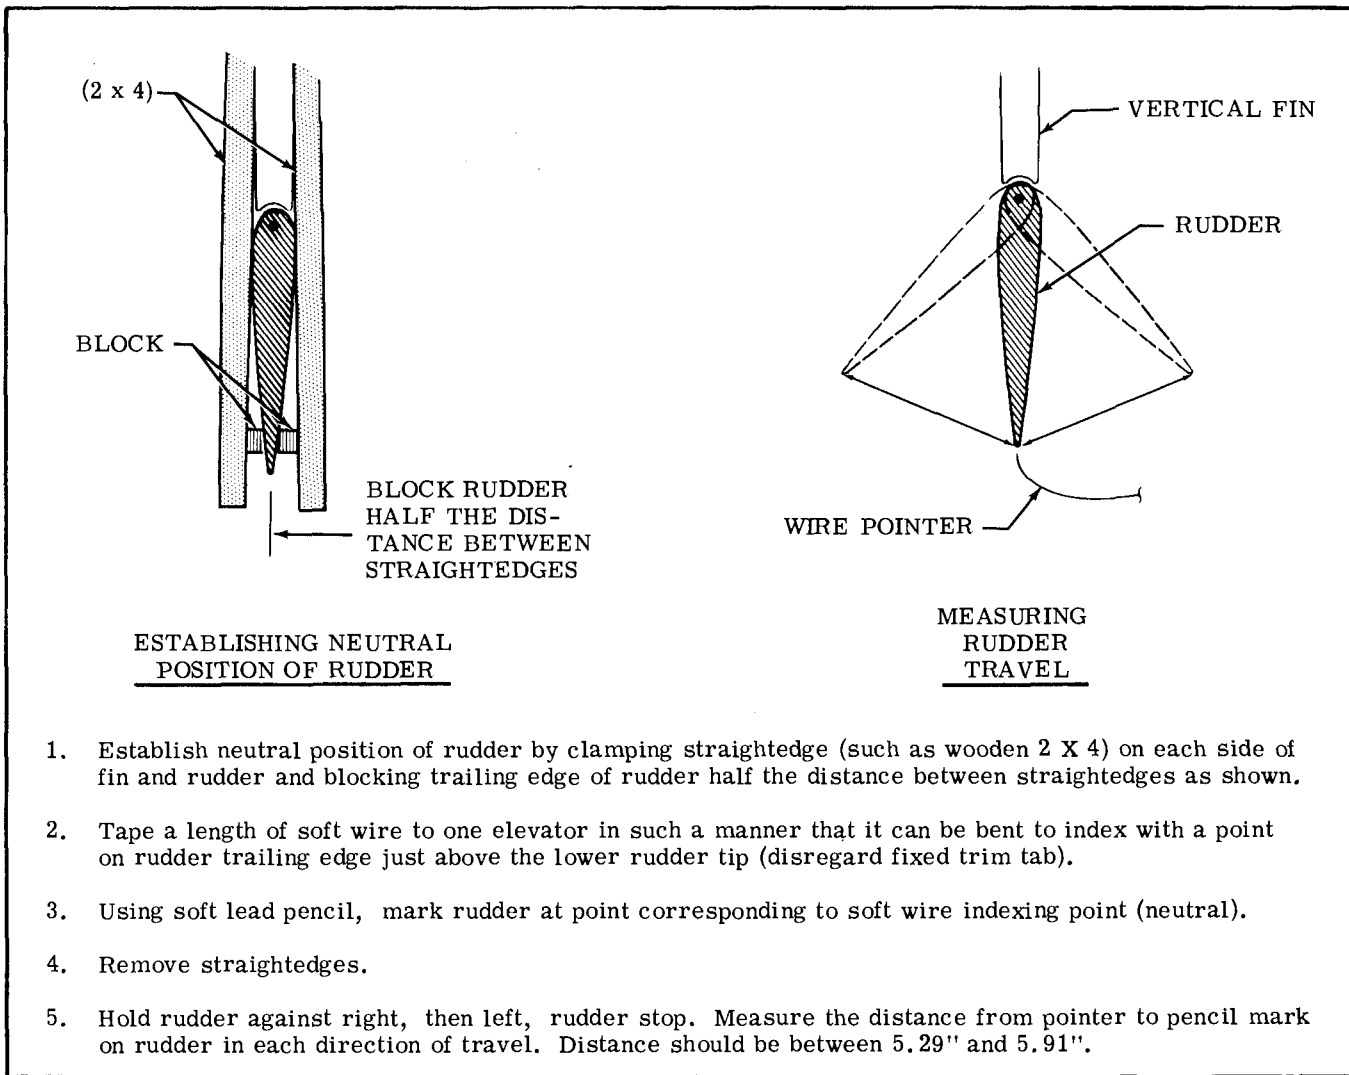

Figure 10-4. Checking Rudder Travel
a. Adjust travel stops (3) to attain travel specified in Section 1. Figure 10-4 illustrates correct travel and one method of checking.